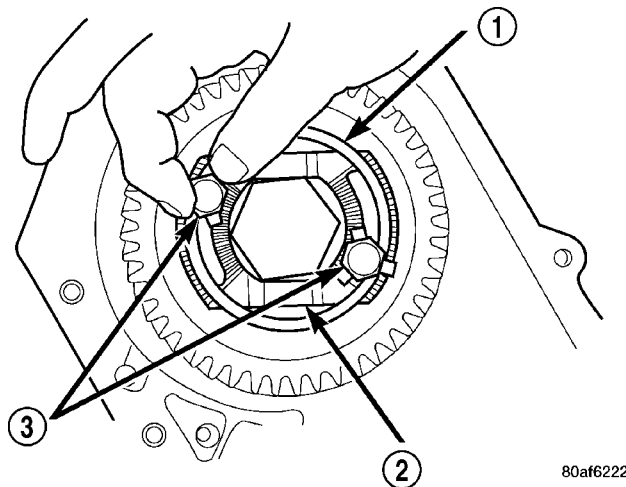

Fig. 107 Install Strap Bolts
(19) Install retaining strap (Fig. 107).
(20) Install strap bolts but do not tighten at this time (Fig. 107).